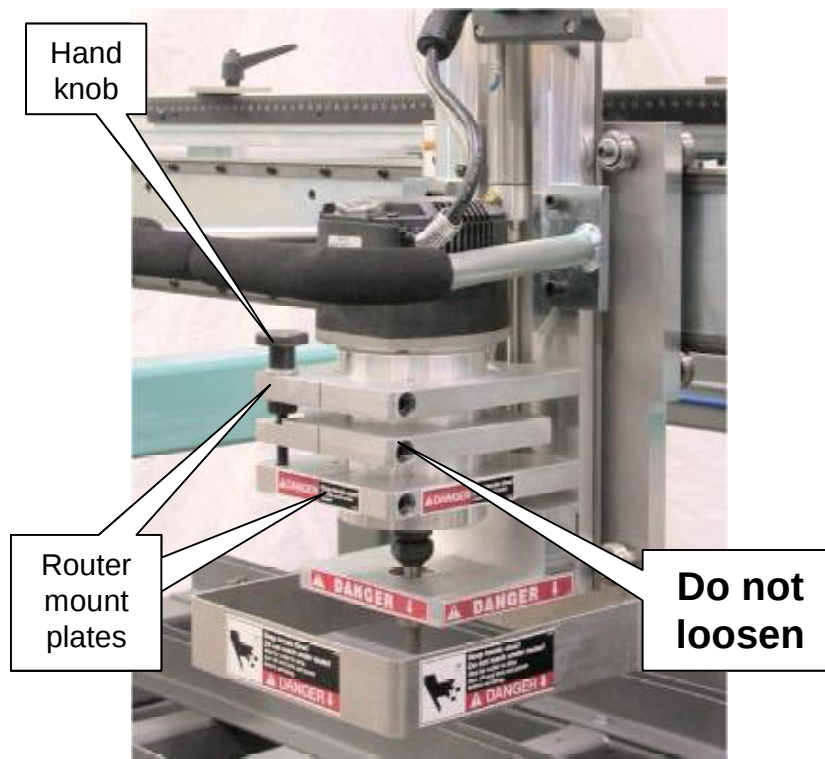

Figure 4
1. Loosen the 3/8" socket head cap screws in the two router mount plates (top & bottom screws), but do not loosen the screw in the height adjust plate (middle) (Figure 4)